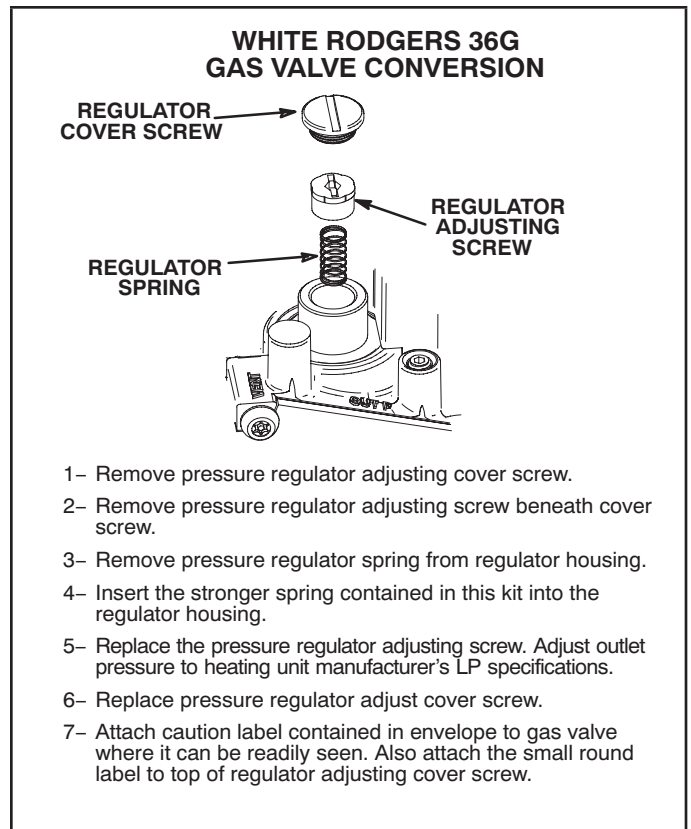

Figure 3
- 8 - Install gas valve conversion kit. Refer to manufacturer's instruction packed in valve conversion kit. See figure 3.
- 2 - After gas line pressure has been checked and adjusted, check manifold pressure at the pressure tap on the outlet side of the gas valve. The correct manifold pressure is given in table 2 or 3. Refer to figure 3 for gas manifold pressure adjustment screw location.